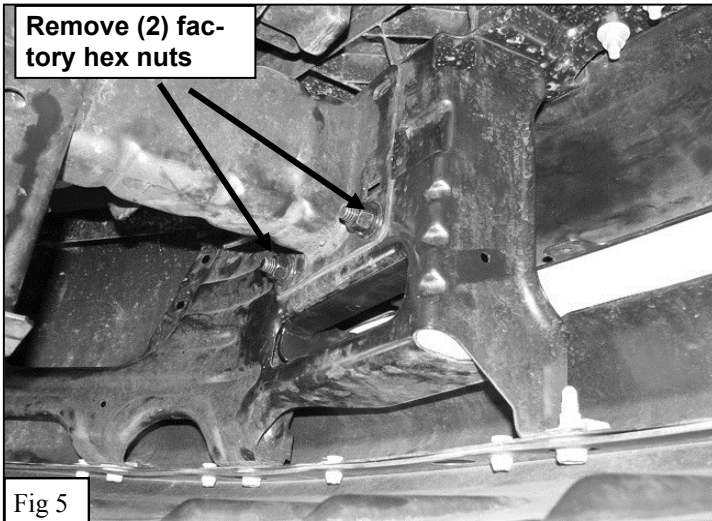

Fig 5
4. From behind the front bumper, remove the (2) hex nuts on the bottom of the bumper brackets securing the bumper to the frame, (Figure 5). Note: For vehicles with factory tow hooks it is only necessary to remove the nuts inboard toward the center of the vehicle.